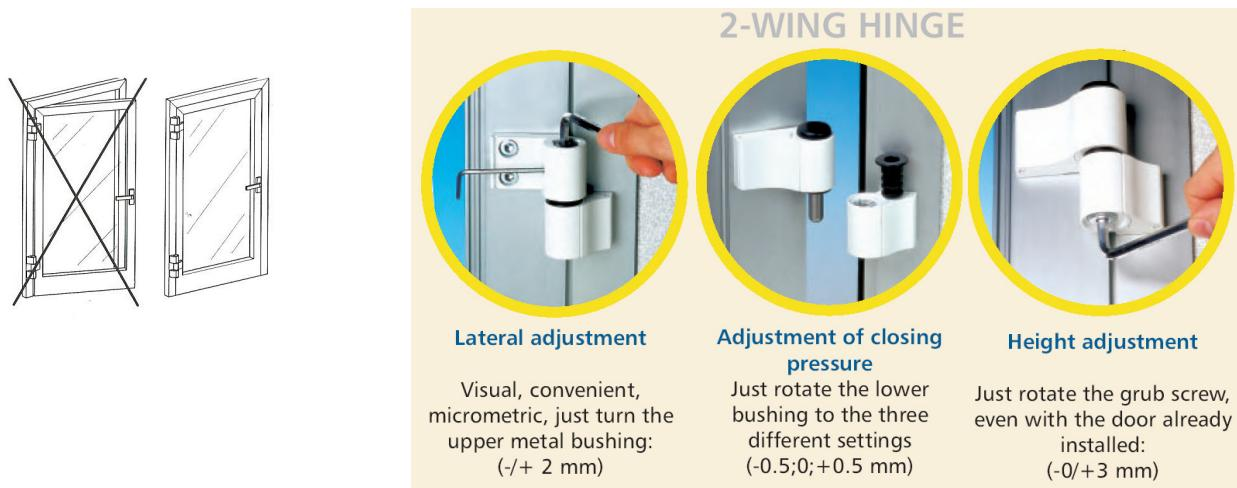

Figure A1:
4. Adjust the door as instructed below (Figure A1).